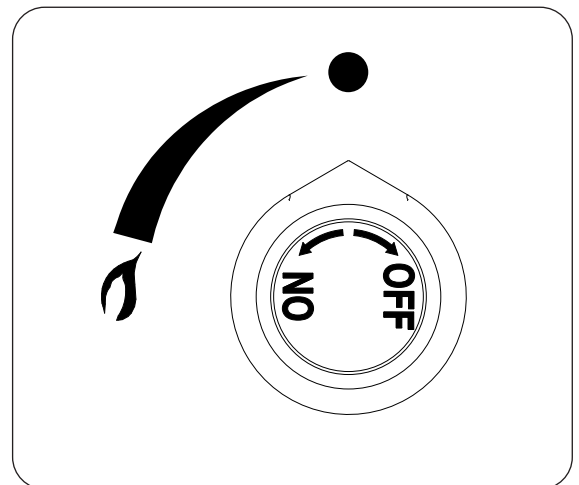

Fig. 31-2
4. **While holding the igniter button in, verify that the electrode spark is grounding to the flash tube**, then turn the gas control knob counter-clockwise to the **ON** position, depress, and hold for 15 seconds (see Fig. 31-2). Your burner should light within 5 seconds.
To extinguish your gas burner, turn the gas control knob clockwise to the **OFF** position (see Fig. 31-2). Be sure the control knob is turned fully off to avoid any gas leakage.